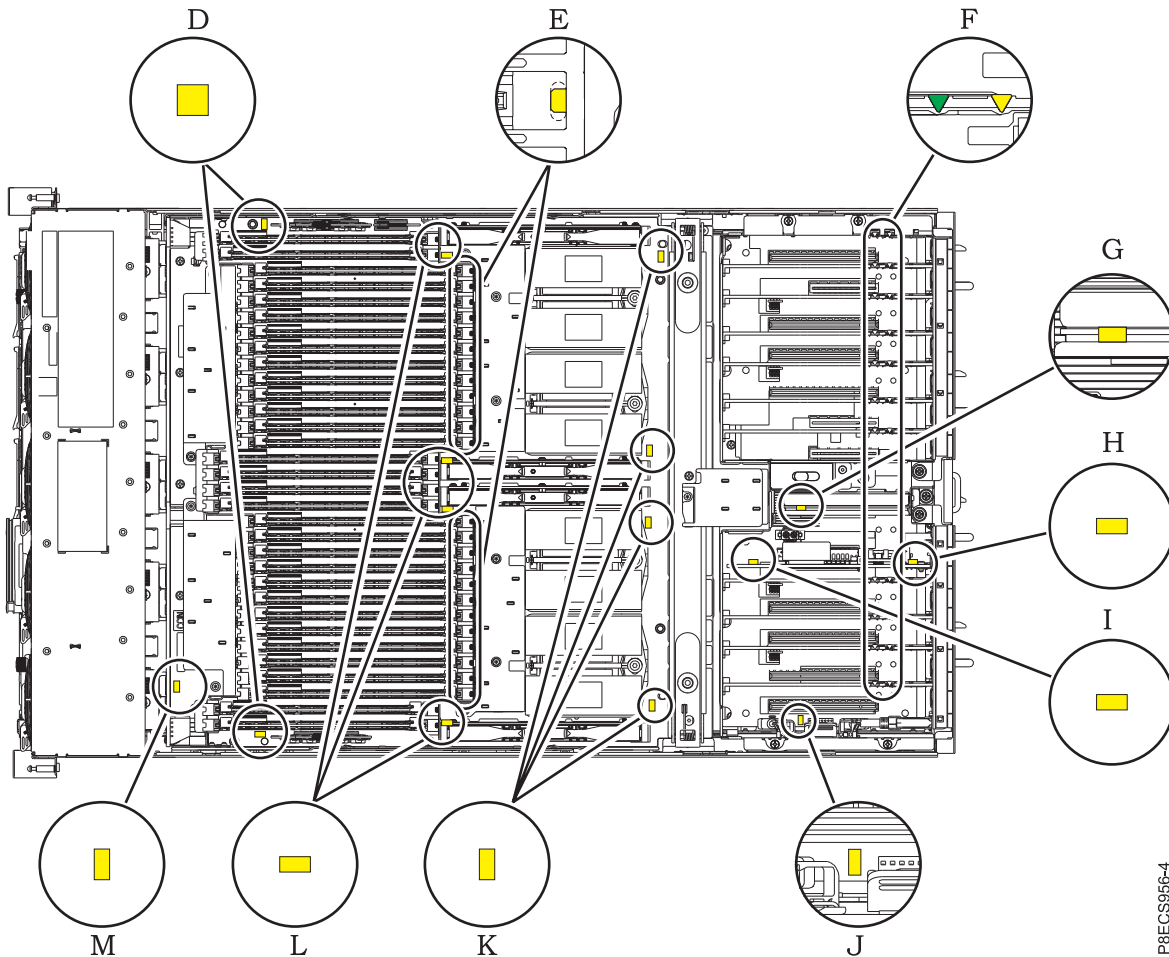

Figure 1. Service indicator LEDs
6. Look for the flashing amber fault LED (J) you enabled in step 1 on page 1 to identify the failed vital product data card. Figure 1 shows the location of the vital product data card in the 8408-44E or 8408-E8E system and the position of the LED.